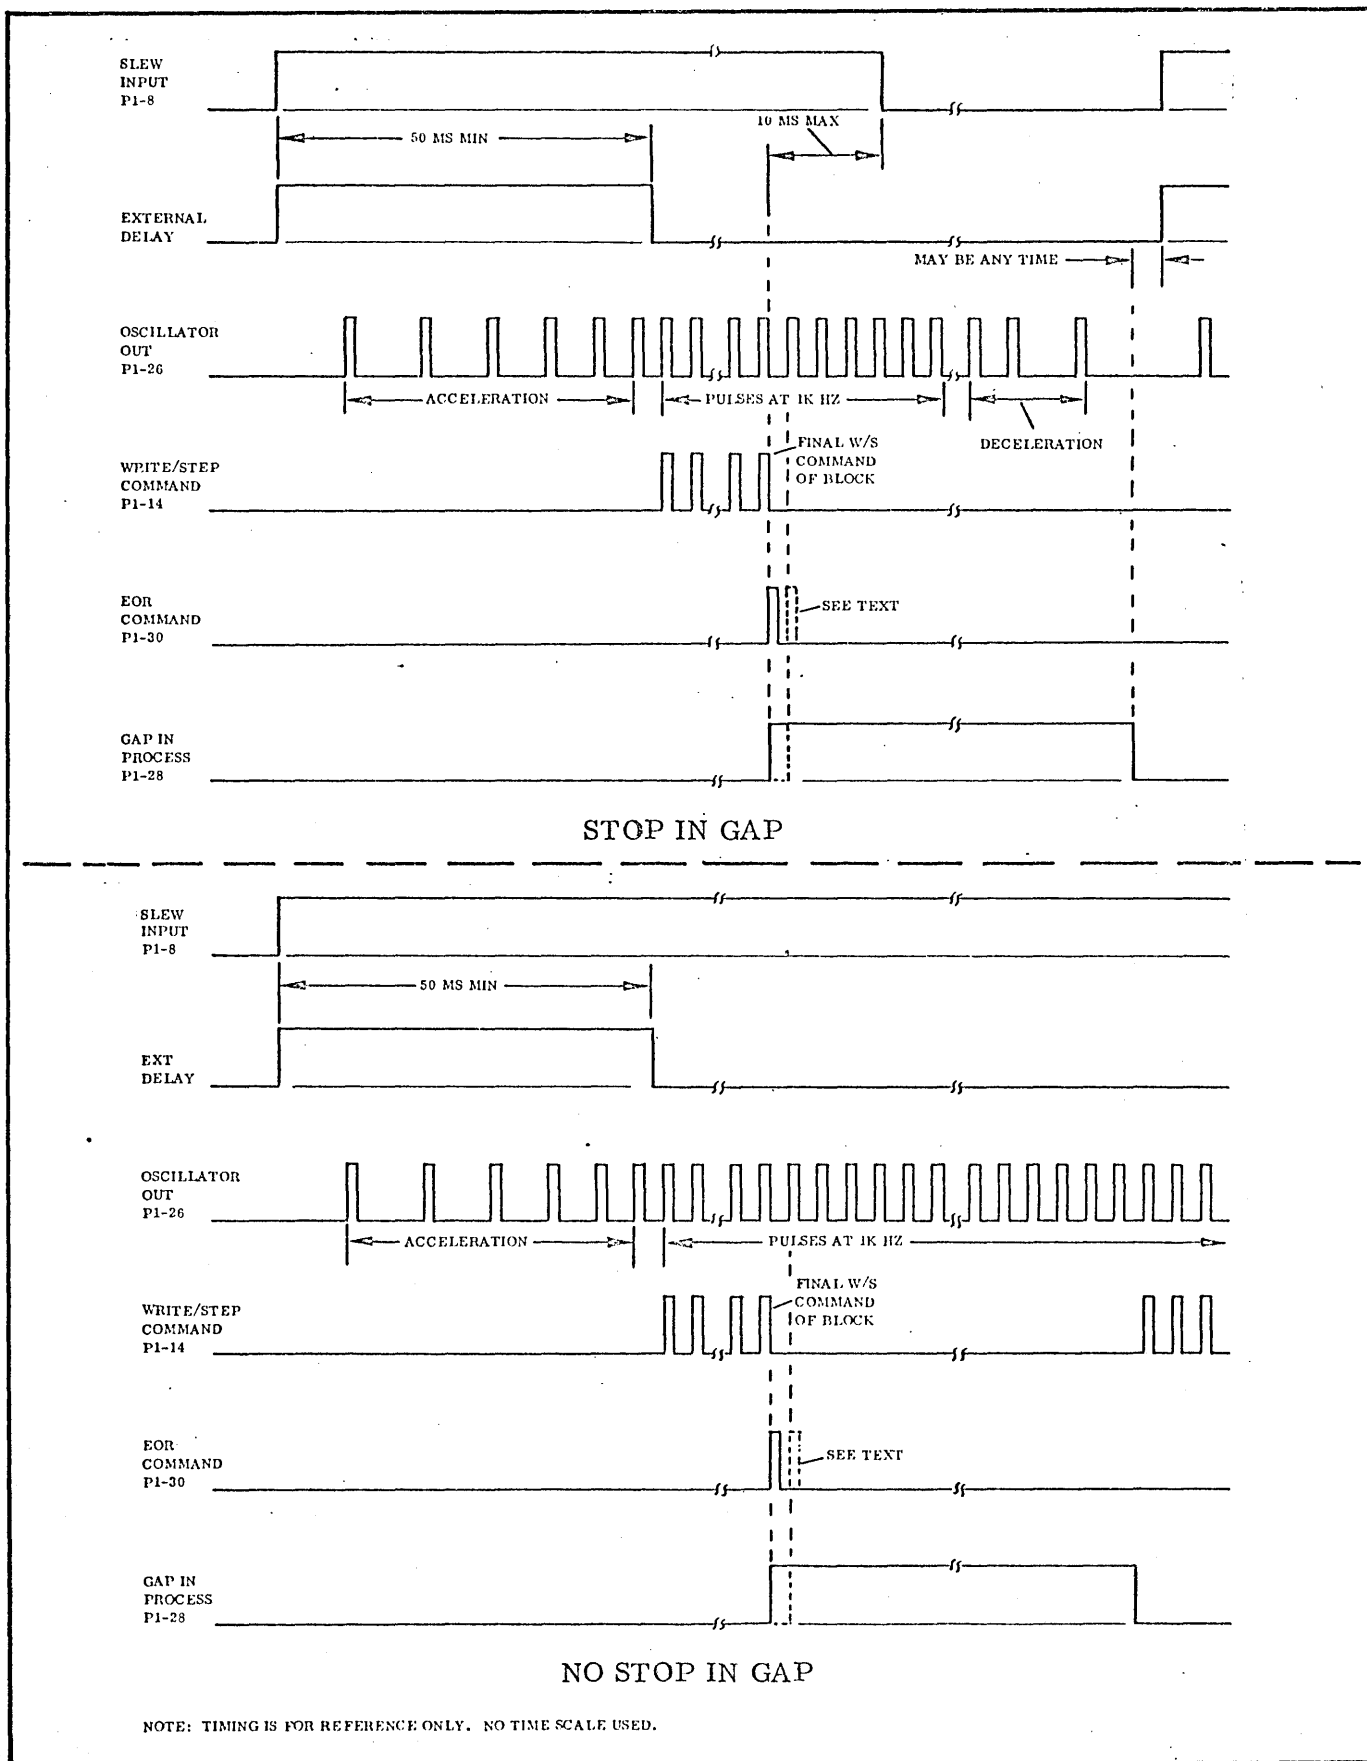

Figure 4-2. Timing Diagram (Preferred Method)
- a. Refer to Figure 4-2, Timing Diagram (Preferred Method)